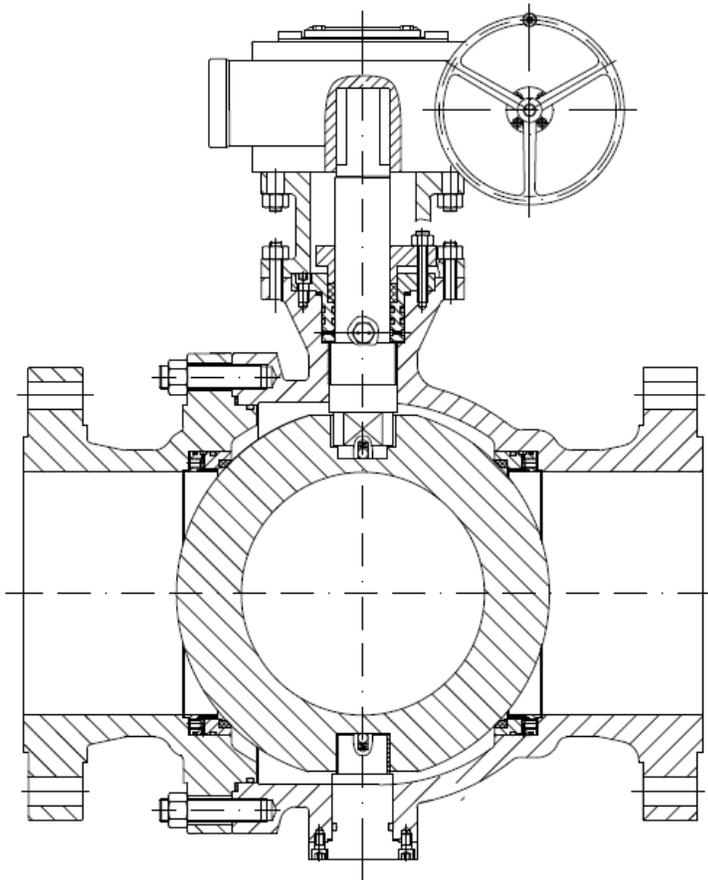

Figure 3
- 6.1 Before removing the actuator, fully close the valve, see Figure 3;